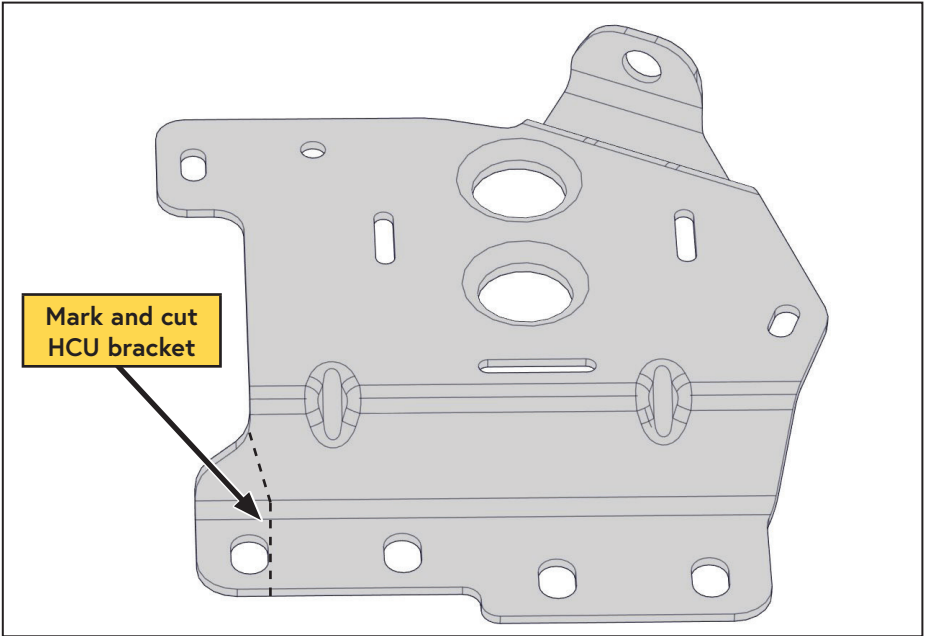

Figure 16 — Modifying the HCU bracket
- ☐ Mark and cut the HCU base bracket in the location shown (Figure 16).